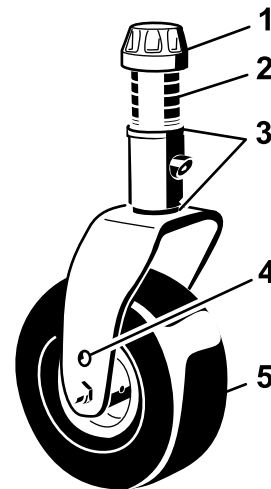

Figure 29
3. Adjust the shims (3 mm or 1/8 inch) on the front caster fork(s) to match the height-of-cut decal (Figure 29); refer to Adjusting the Height of Cut \(page 25\).